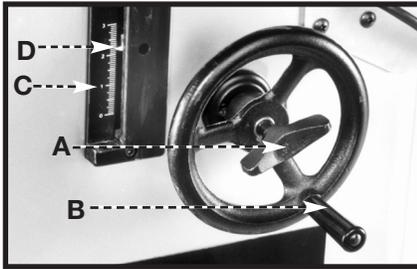

Fig. 26
The spindle can be raised or lowered by loosening the lock knob (A) Fig. 26 and turning the handwheel (B). To raise the spindle height, turn the handwheel (B) clockwise. To lower the spindle height, turn the handle (B) counterclockwise.
The scale (C) Fig. 26 indicates the spindle travel range from 0" to 3" and is marked in 1/16" increments. Minor cutter height adjustments can be measured using the pointer (D) along the scale (C).
**▲ CAUTION** Always tighten lock knob (A) after adjusting spindle height.